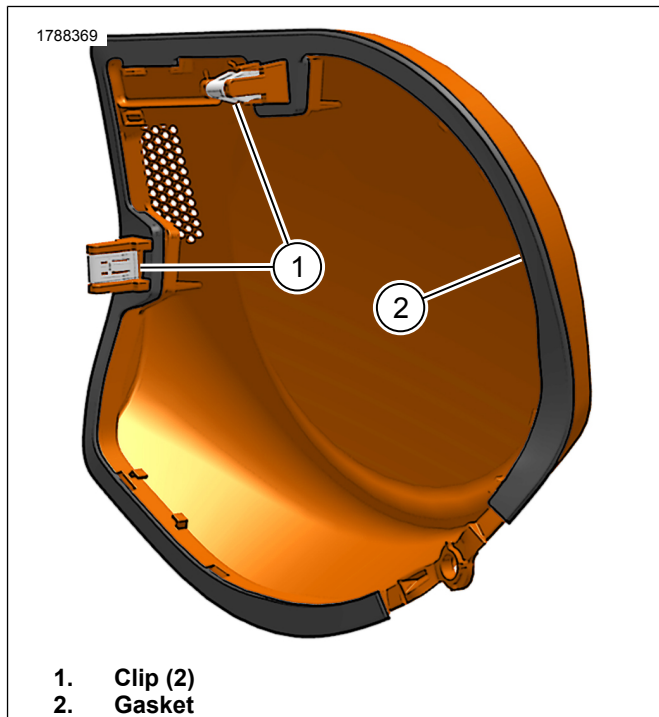

Figure 6. Grille Gasket
- a. Figure 6 Verify clips (1) and gaskets (2) are in place on grille.